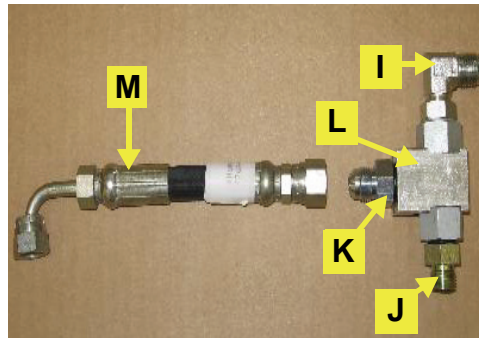

Figure 4a: Pre-assembled load sense shuttle
- a. Pre-assemble the load sense shuttle (L) with adapter fittings (I, J and K) as shown. (Figure 4a)